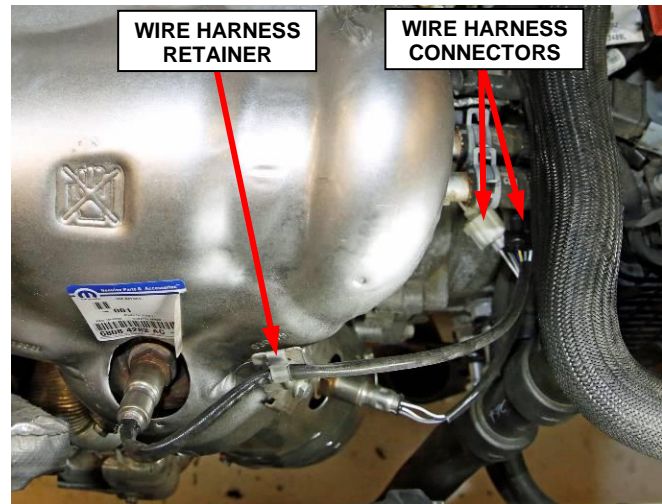

Figure 19 – Oxygen Sensors Electrical
32. sensor and downstream oxygen sensor wire harness connectors (Figure 19).